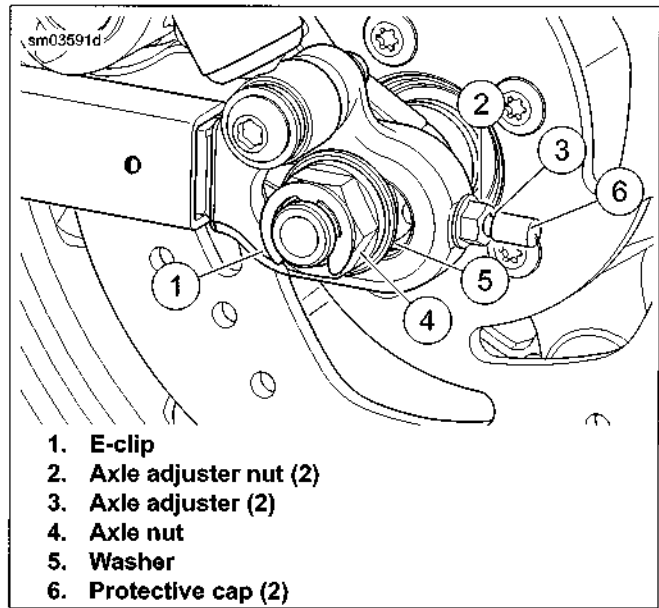

Figure 1-28. Drive Belt Adjustment
2. See Figure 1-28. Remove and discard E-clip (1) and loosen rear axle nut (4).